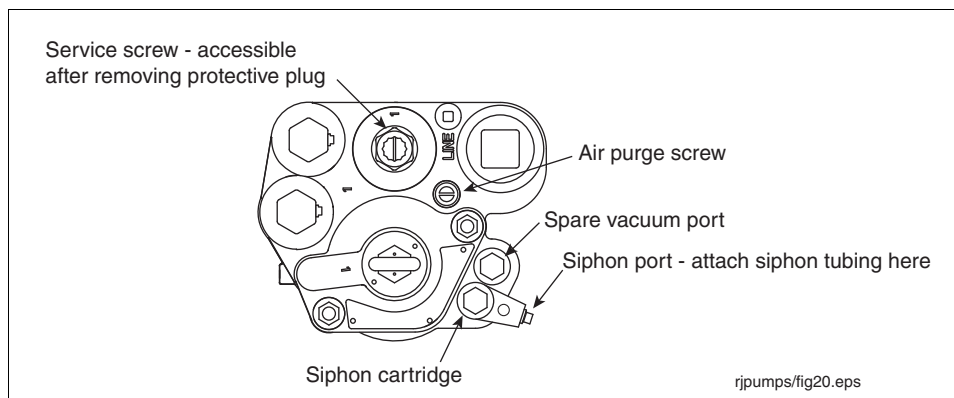

Figure 19. Siphon Connection
The siphon port for The Red Jacket STP is in a siphon assembly that fits into one of the two vacuum ports (see Figure 19). The port end can be swiveled after loosening the hex on top to accommodate the incoming siphon tube. Torque the siphon assembly to 15-30 ft-lbs (20-41 N•m) after positioning.
2. Open the air purge screw 2 - 3 turns counterclockwise (see Figure 19).